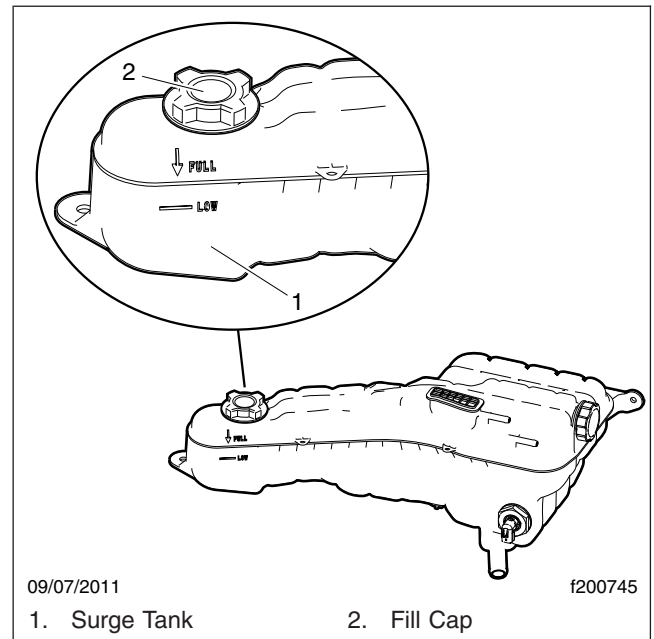
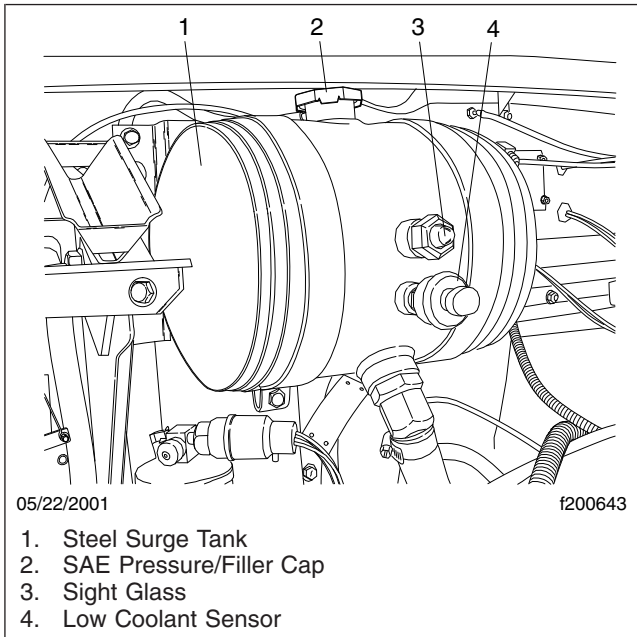
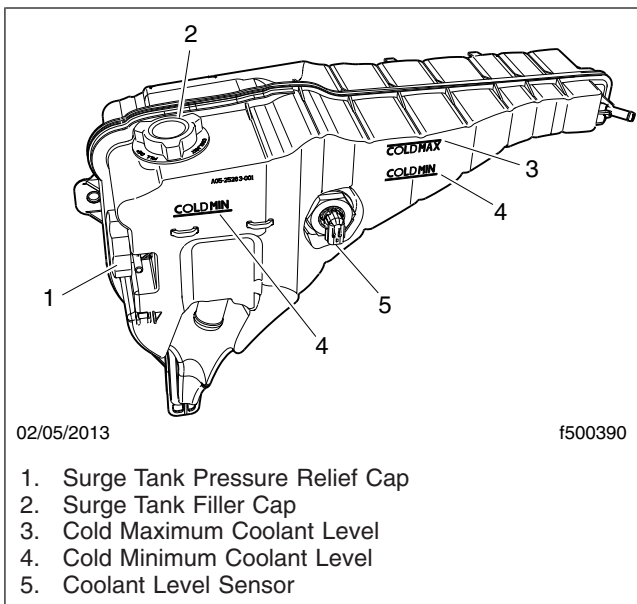

Fig. 1, Frontwall-Mounted Translucent Surge Tank
Fig. 2, Steel Surge Tank, High Flow Radiators
Fig. 3, Radiator-Mounted Translucent Surge Tank
Keep the cooling system filled. On vehicles equipped with a frontwall-mounted translucent surge tank (see Fig. 1), keep the coolant level between the FULL and LOW marks. On vehicles equipped with a frontwall-mounted steel surge tank (see Fig. 2), keep the cooling system filled so that coolant can be seen in the sight glass in the surge tank. On vehicles equipped with a radiator-mounted translucent surge tank (see Fig. 3), keep the coolant level between the FULL and LOW marks. If the coolant is low, add the antifreeze solution mixture specified for the vehicle in PartsPro (Group 01).
2. The level of coolant should be between the FULL and LOW marks in a translucent surge tank (see Fig. 1 and Fig. 3) or visible through the sight glass on a steel surge tank (see Fig. 2). If the coolant is low or not visible in the sight glass, check the system for leaks.